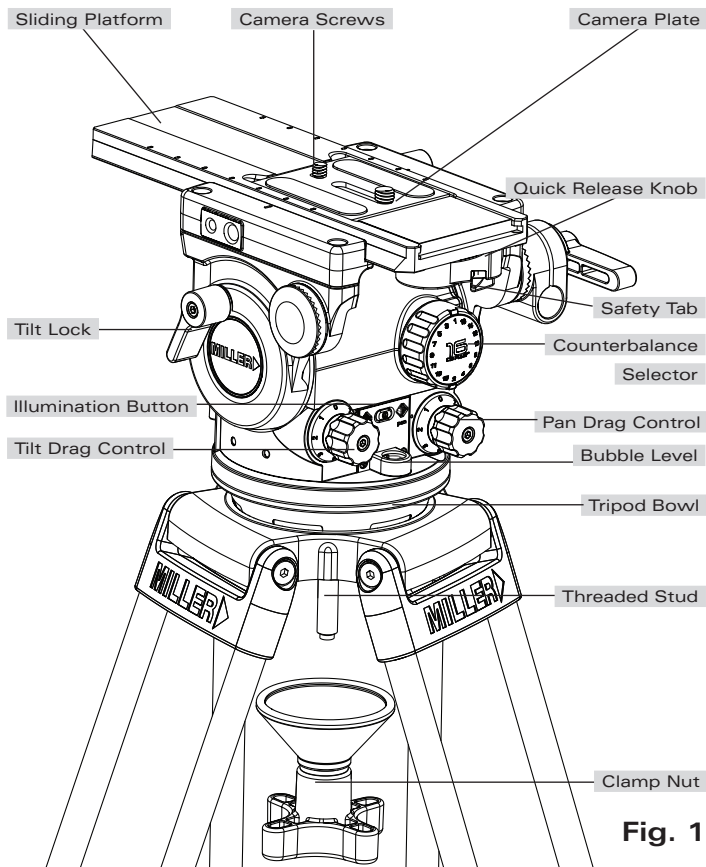
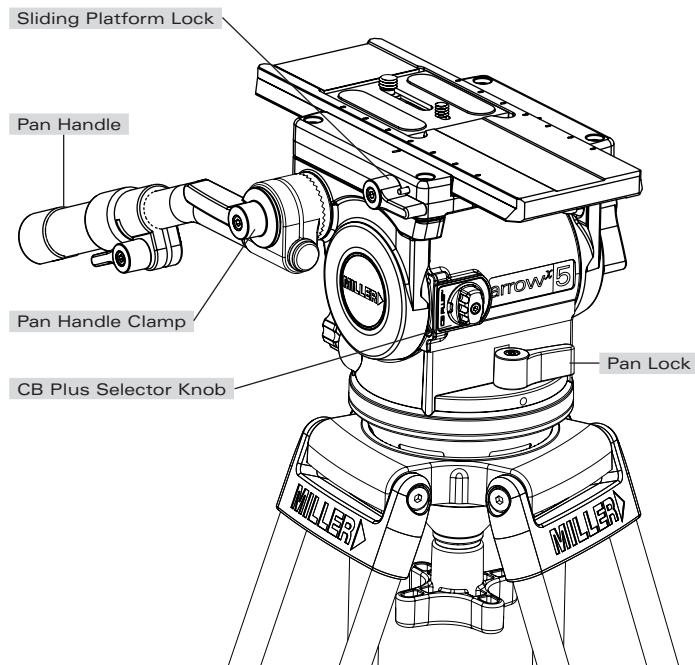

Fig. 1
Fig. 2
- 2.5 Align the CAMERA PLATE with the SLIDING PLATFORM (Fig. 1) and slide it in until the safety mechanism is engaged.
The counterbalance system was designed to neutralise the effect of the camera weight when it is tilted. The Arrow^x Fluid Head offers a 16 position counterbalance system which is operated with the Counterbalance Selector Knob (Pg, 1 Fig. 1) and the CB Plus Selector Knob (Pg, 1 Fig. 2).